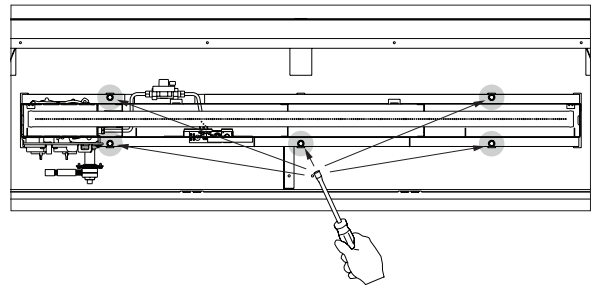

Figure 29
2. Remove burner box from fireplace. **See Figures 29 and 30.**